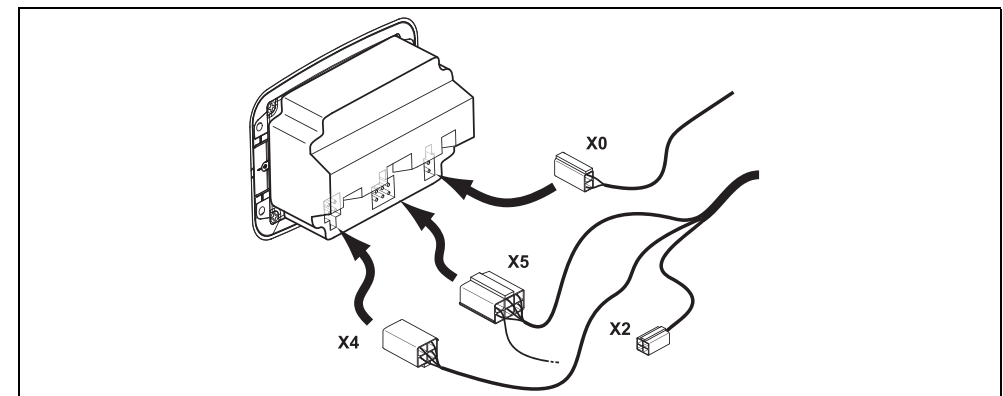

Fig. 51: Electrical connections of programmable control panel
- Connect plug X4 (4 poles) and X5 (6 poles) of the external wiring harness to the control panel (see Fig. 51).
- Connect plug X0 (2 poles) of the inside temperature sensor to the control panel (see Fig. 51).
- Optional: Connect plug X2 (4 poles) to receiver Telestart/Thermo Call (see Fig. 51).